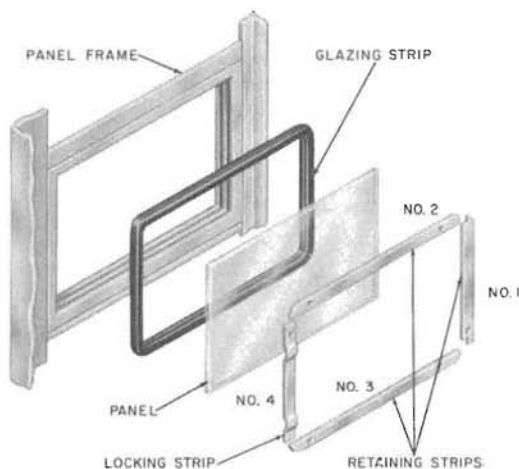

Fig. 23—Assembly of Side or Rear Panels
- 4.10 Booth panels and signs are held in place by four interlocking retaining strips. They are inserted in sequence as shown in Fig. 23. The No. 4 strip is rippled and is held in place by interface friction.
- (1) Remove No. 4 locking strip.
- (2) Remove retaining strips No. 2 and No. 3.
- (3) Remove retaining strip No. 1.
- (4) Remove panel and rubber glazing strip.
- (5) Apply rubber glazing strip to replacement panel.
- (6) Insert panel into frame with the beaded edge of retaining strip on the outside.
- (7) Replace retaining strips in sequence as shown in Fig. 23.
- 4.15 The side and rear signs are removed in the same manner as the side panels (Fig. 23).
4.45 Replace glass panels in same manner as side panels (Fig. 23).